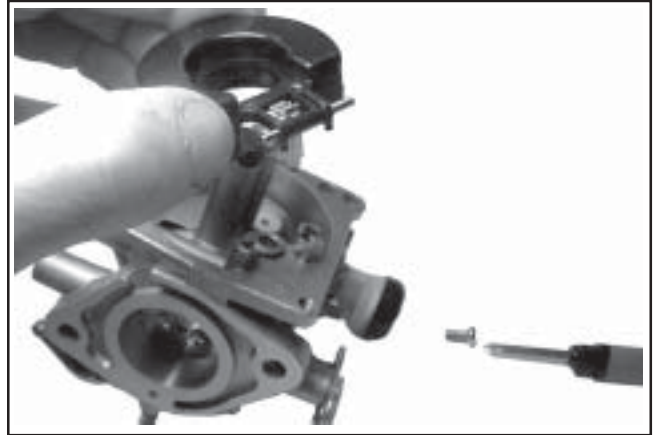

Figure 5-12. Removing Float and Inlet Needle.
2. Remove the float pin screw and lift out the old float, pin, and inlet needle. See Figure 5-12. Discard all of the parts. The seat for the inlet needle is not serviceable, and should not be removed.